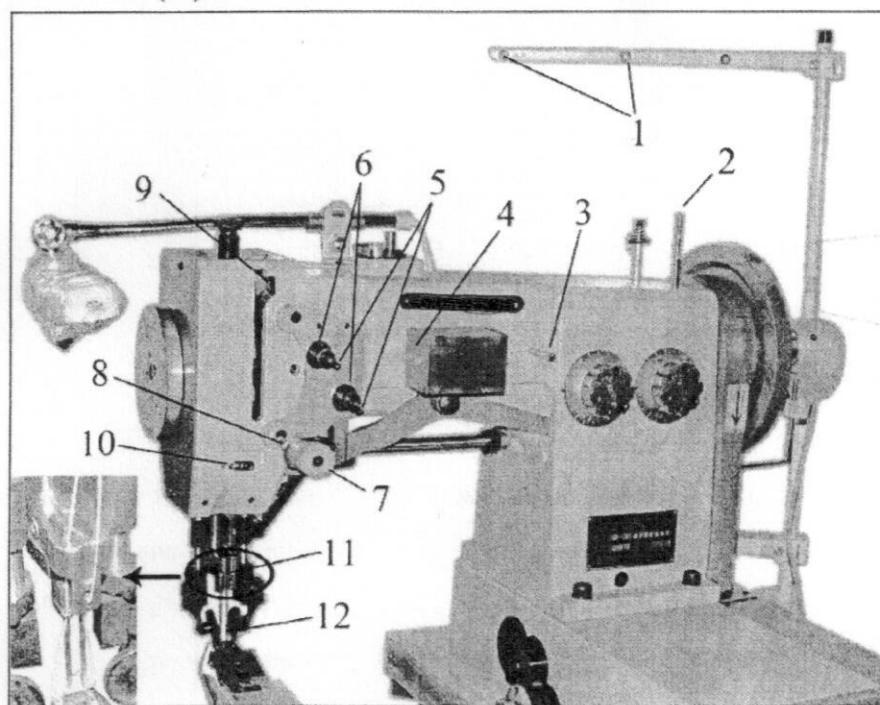

Fig.2
-- Threading the needle thread by the path indicated in Fig.2
- (1) Thread wheel holder (2) Threading rod (3) Threading rod (4) Oil box (5) Threading rod
- (6) Tightener (7) Threading wheel (8) Take-up leaf (9) Take-up lever (10) Threading ring
- (11) Needle holder (12) Needle